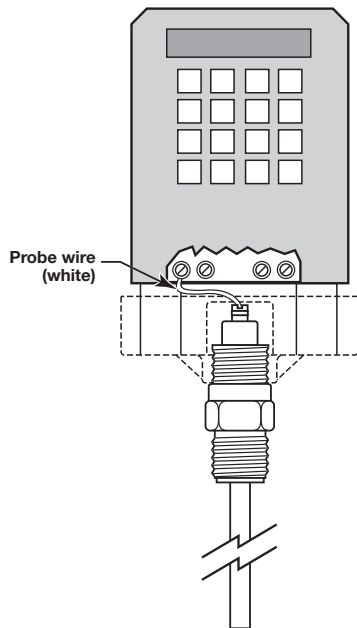

Figure 2
3. Screw the amplifier housing onto the probe. Refer to Figure 2.